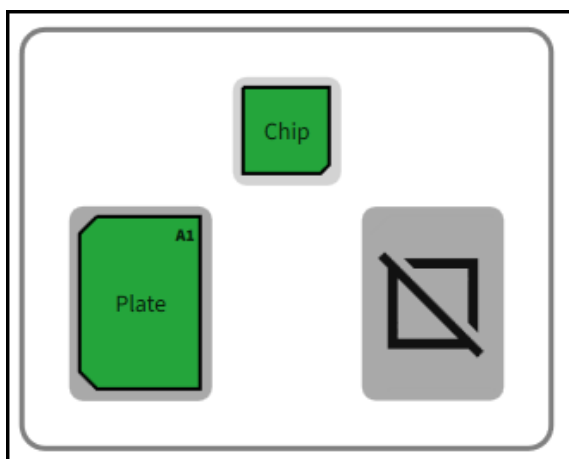

Figure 55. Mini-map displaying successful source plate placement
3. Visually confirm the placement of the plate by checking the mini-map in the software (Figure 55). The plate section in the mini-map will turn green if it successfully detects the plate.